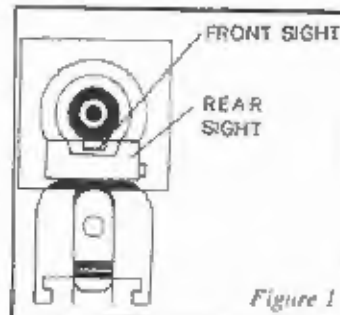

Figure 1
2. Grasp the pistol by the stocks and take aim. Carefully align the front sight and rear sight so that the top surfaces mate at the lower or 6 o'clock position of the black portion of the target. Gently squeeze the trigger for best accuracy. (Fig. 1).